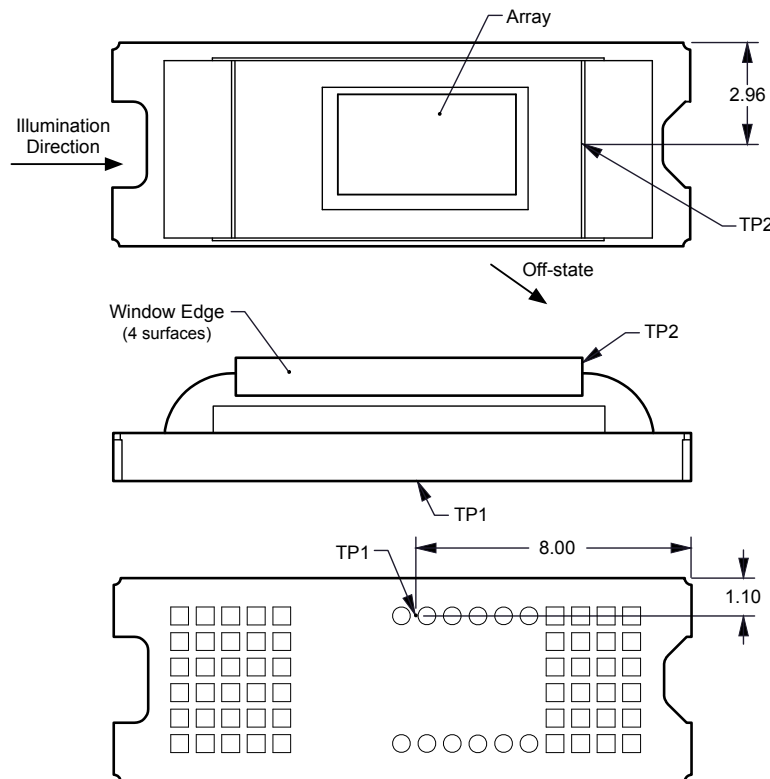

Figure 18. DMD Thermal Test Points
Micromirror array temperature cannot be measured directly, therefore it must be computed analytically from measurement points on the outside of the package, the package thermal resistance, the electrical power, and the illumination heat load. The relationship between array temperature and the reference ceramic temperature (thermal test point TP1 in Figure 18) is provided by the following equations:
- T_{CERAMIC} = Measured ceramic temperature ($^{\circ}\text{C}$), TP1 location in Figure 18
- Q_{ARRAY} = Total (electrical + absorbed) DMD power on array (W)
- $Q_{\text{ELECTRICAL}}$ = Nominal DMD electrical power dissipation (W)